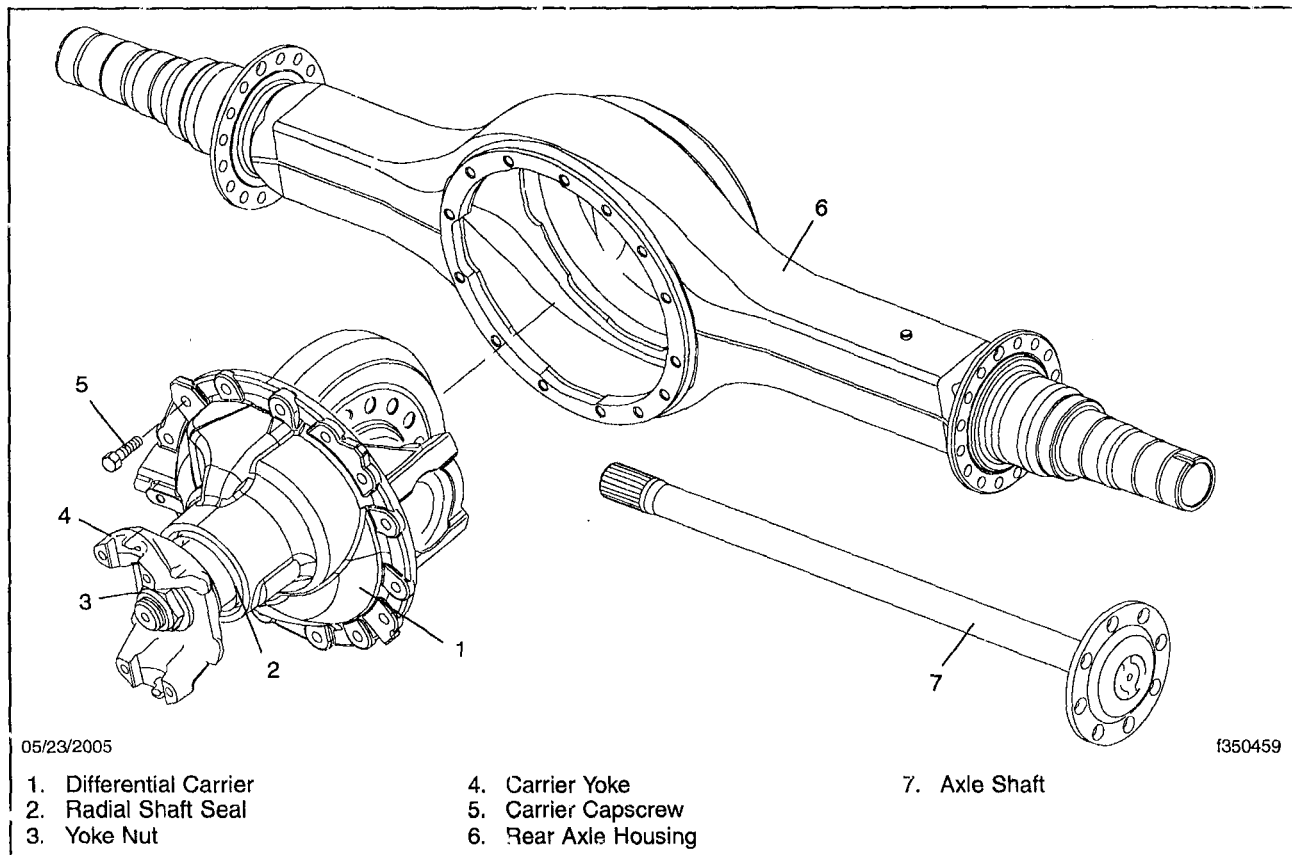

Fig. 5, Rear Axle Components (typical)
28. Remove the carrier capscrews that hold the differential carrier to the axle housing. See **Fig. 5**.